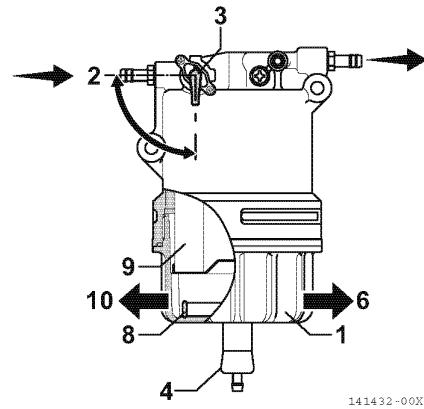

Figure 12
1. Position an approved container under the cup (1, **Figure 12**) of the water separator to collect the contaminants.
2. Close the fuel valve (3, **Figure 12**) by turning it to (2, **Figure 12**) position.
3. Loosen the drain valve (4, **Figure 12**) and remove the fuel oil and mixed substance. *See Drain water separator on page 82.*
4. Turn the cup (1, **Figure 12**) to the left (10, **Figure 12**) and remove from the bracket. If it comes with a drain sensor, remove the cable in advance.
6. Remove the float ring (8, **Figure 12**) from the cup. If it comes with a drain sensor, there is not float ring. Move the drain inside the cup to the specified container, and dispose with a predetermined method.
11. Attach the bracket in the cup. Turn to the right (6, **Figure 12**) with a torque of 27 - 33 N·m (2.8 - 3.4 kgf·m). Always tighten with your hand.
13. Open the fuel valve (3, **Figure 12**).